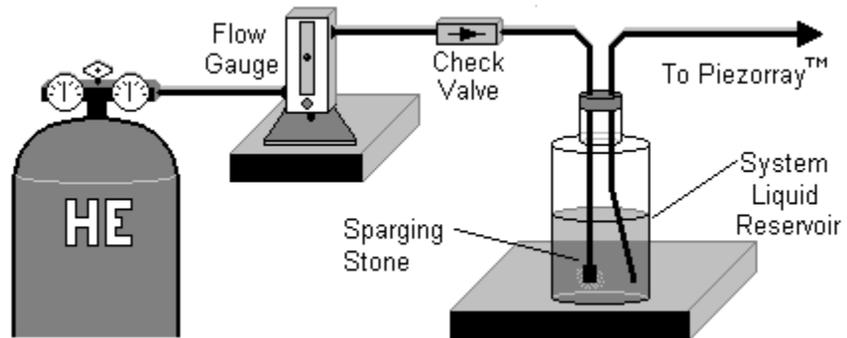

Figure 10-10. Helium Sparging Configuration.
3. Connect tubing between the regulator, flow meter and check valve (Figure 10-10). Be sure to follow all flow directions on the components being connected.